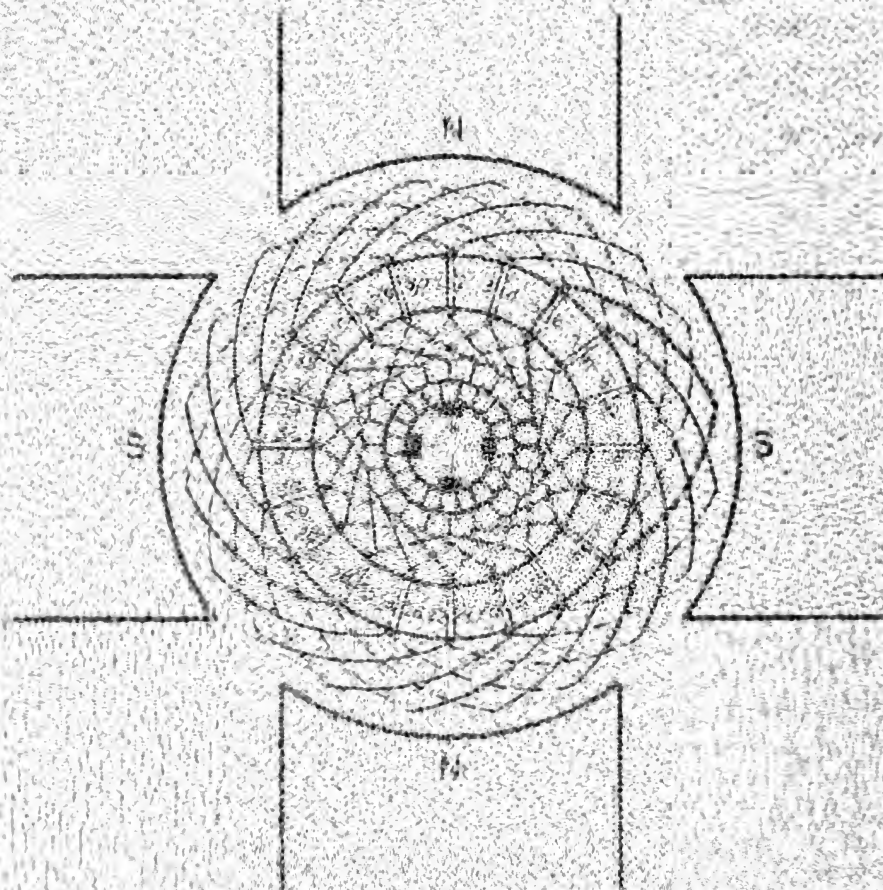
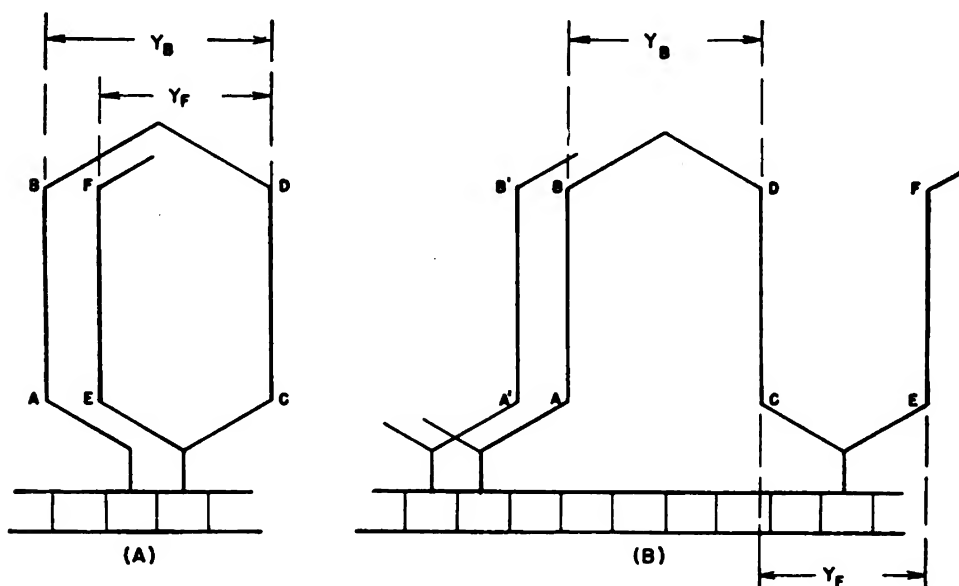

Figure 91.—4-pole, lap-wound armature.
Figure 93.—Lap and wave windings.
6. Draw the wiring diagram—(See figures 91 and 92).
In the lap-wound armature, in figures 91 and 92, you connected a coil side under one pole directly to a coil side occupying a corresponding position under the next pole. Then you connected this second coil side back to a coil side under the original pole, but in a different slot. It would not make any difference in the direction and magnitude of the induced emf in the winding if the connection, instead of returning to the original pole, advanced to the next pole.
In figure 93, you see the difference between lap and wave-wound armatures. In figure 93 (A) you have a LAP-WOUND armature similar to the one used in the preceding problem and shown in figures 91 and 92. In figure 93 (B) you have a WAVE-WOUND ARMATURE. The windings pass all the north and south poles